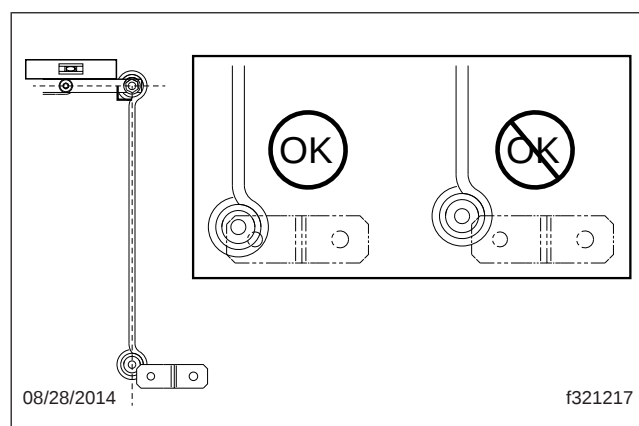

Fig. 4, Permissible Variation in Z-Bracket Position
- 7.3 With the height sensor arm level and the linkage rod at 90°, check if the linkage end hole is within the perimeter of the Z-bracket mounting face. See Fig. 4.
If the end hole is within the perimeter of the Z-bracket mounting face, as shown in Fig. 4, the component positions are sufficient. No further work is necessary.
If the end hole is not within the perimeter of the Z-bracket mounting face, as shown in Fig. 4, install a new Z-bracket in the correct position. See **Positioning the Z-Bracket**.